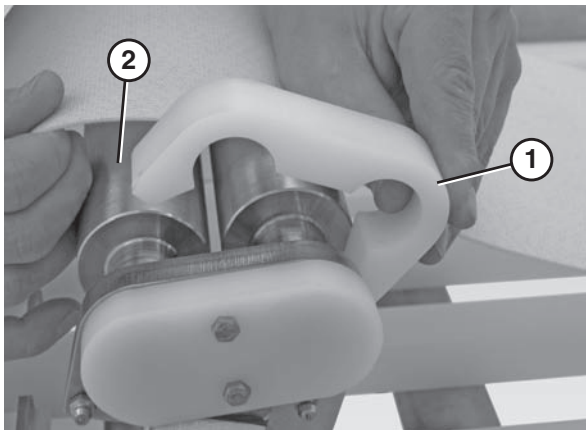

Figure 80
1. Slide the pinch guard blocks (**Figure 80, item 1**) off the nose bar spindles (**Figure 80, item 2**).